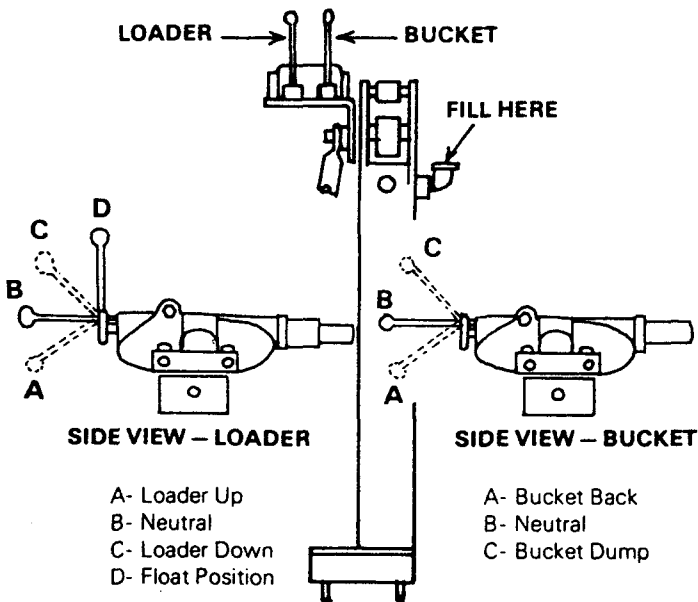

FIG. 16
16. Refer to Fig. 16.
(also refer back to Fig. 16)